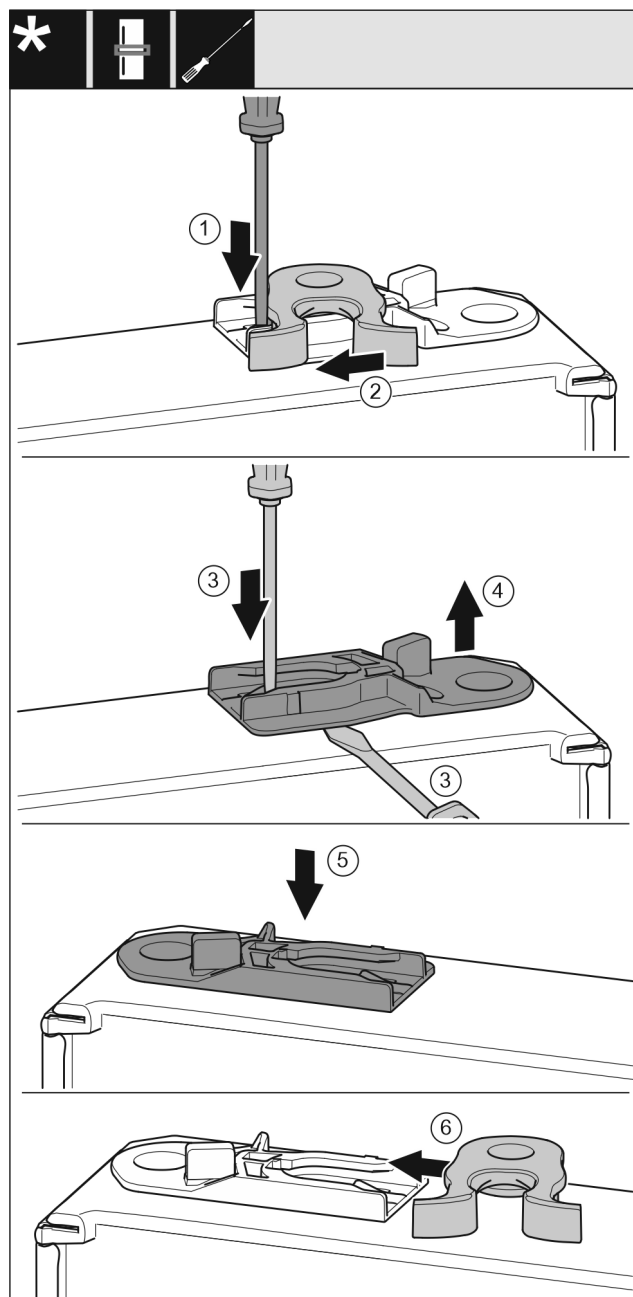

Fig. 19
- Use a slotted screwdriver to push the tab Fig. 19 (1) downwards.
- Pull the closing hook Fig. 19 (2) out of the guide.
- Pull out the guide bush Fig. 19 (3, 4): Press the tab with a flat-blade screwdriver and at the same time move the flat-blade screwdriver under the guide bush.
- Insert the guide bush Fig. 19 (5) supplied on the other side of the housing.
- Slide the closing hook Fig. 19 (6) into the guide.